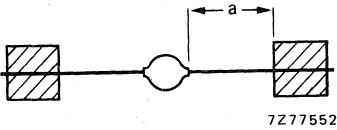

Fig. 2 Mounting method 1.
1. Thermal resistance from junction to tie-point at a lead length $a = 10$ mm; Fig. 2